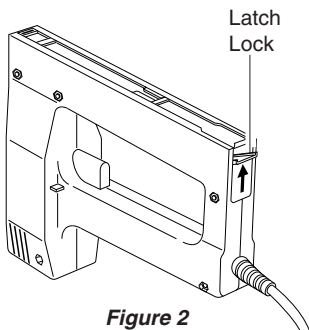

Figure 2
3. Press in latch lock and slide staple chamber cover back until fully open (see Figures 2 and 3).